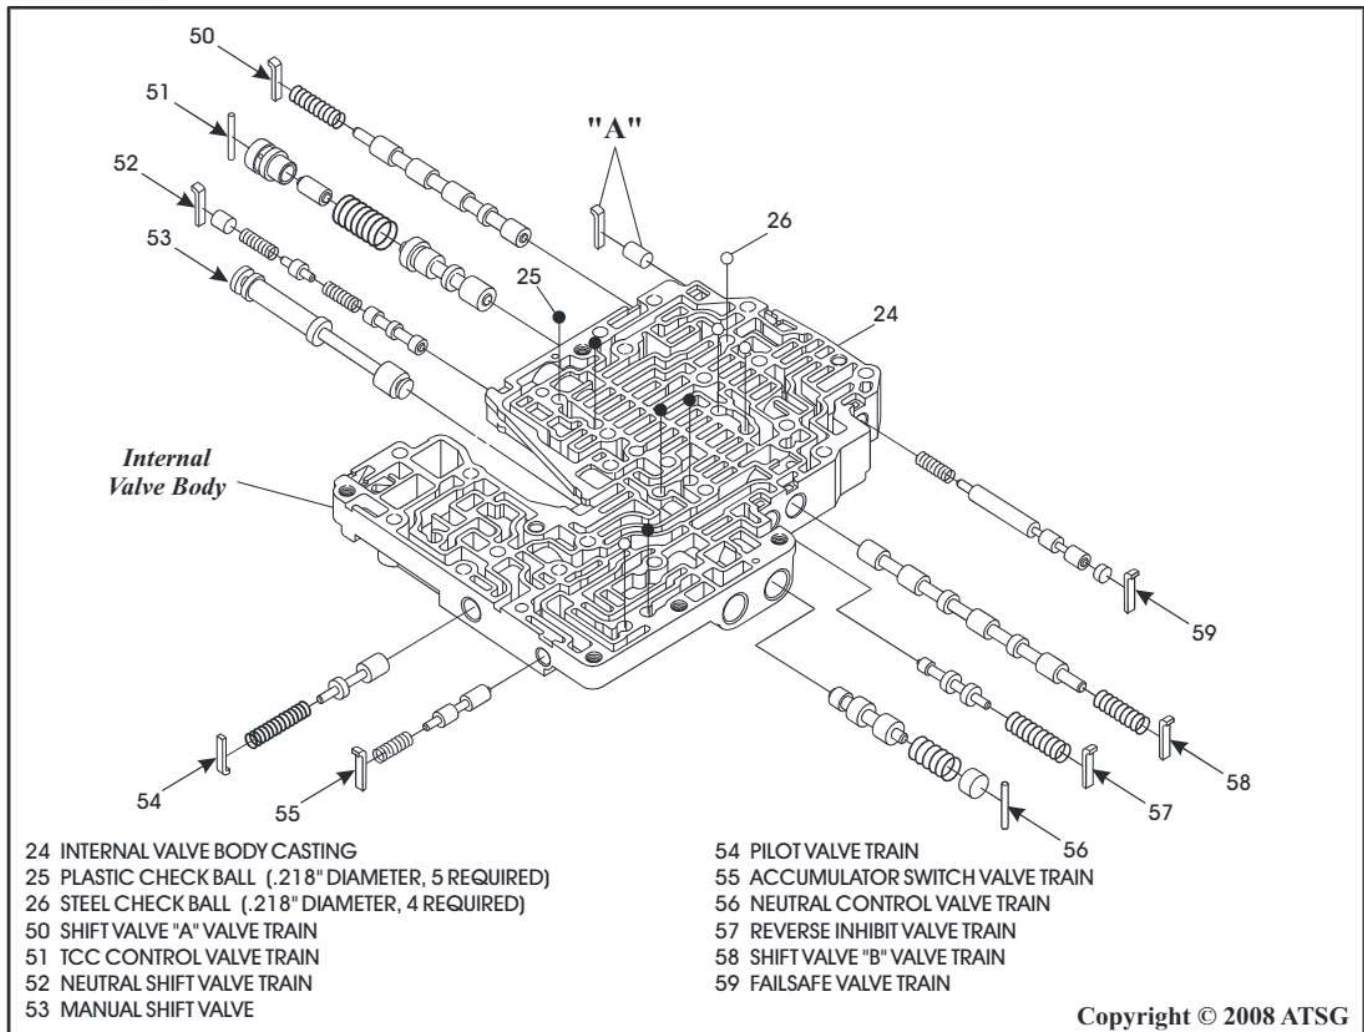

Figure 99
25. Disassemble the internal valve body, as shown in Figure 99, and place the valves, bore plugs and retainers in appropriate trays exactly as they were removed from casting.
Note: *There is no need to remove the bore plug and retainer identified with an "A" in Figure 99, as the valve is removed from opposite side.*
27. Assemble internal valve body parts **exactly** as they are shown in Figure 99, and lube with ATF as they are installed.
Note: *Install the retainers exactly as shown in Figure 99, as they install in different directions through out the valve body.*
28. Install the manual valve into the internal valve body in the direction shown in Figure 99.